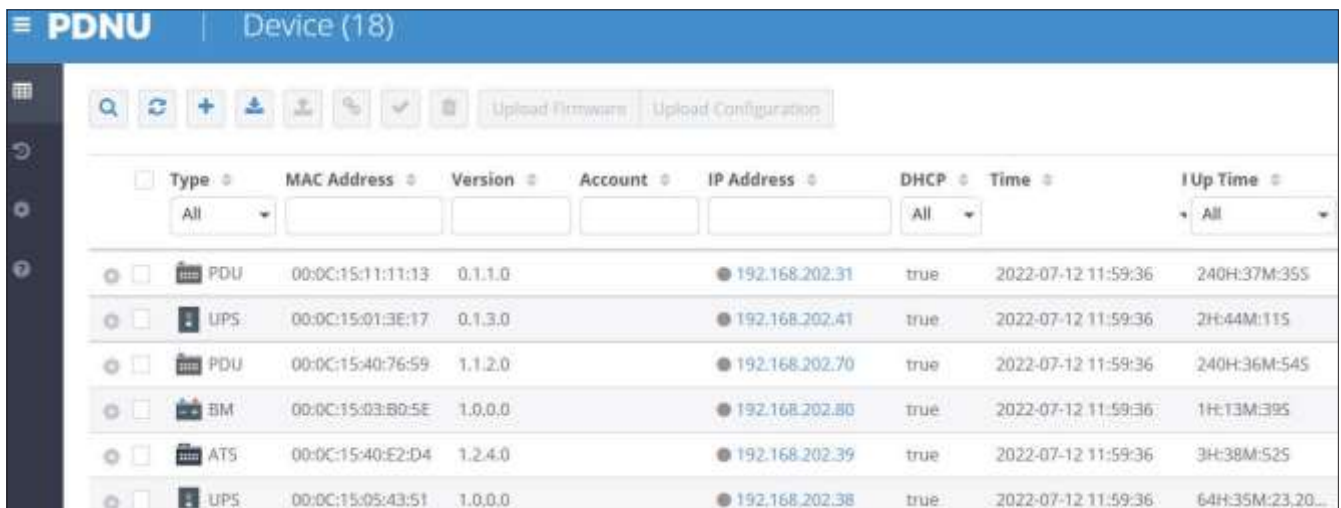

Figure 5. The main window of the “Power Device Network Utility 2” program.
2. The main window of the Power Device Network Utility 2 program is shown in Figure 5. The configuration tool will display all CyberPower Remote Management devices present on the local network subnet. The “Scan” button is used to search the local network subnet again.